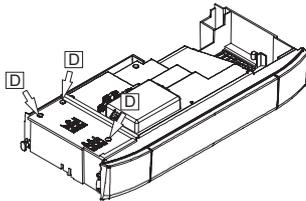

Figure 15.7
- Loosen screws D and remove the service panel (figure 15.7).
- Watch the gauge and check to see if the ignition pressure registered corresponds to the values given in the Technical Data. Turn off the boiler and reignite it by turning the function selector B to the 0 position and then back to that indicated in figure 15.7.